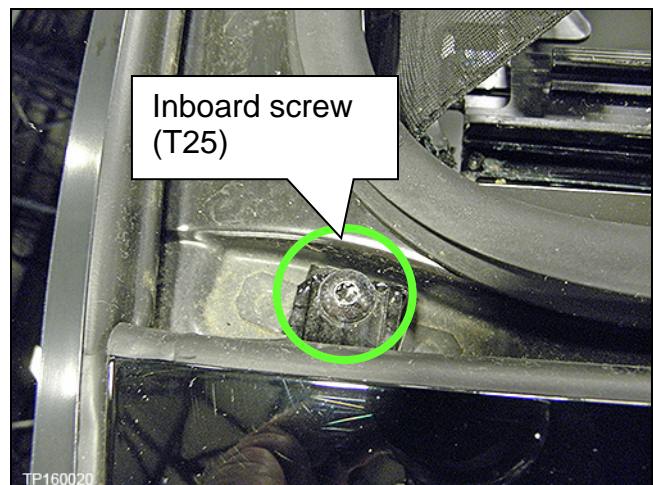

Figure 27
4. Remove inboard screw (single use T25, Figure 27) securing the front of the affected trim panel.
13. Install the new T25 inboard screw (Shown in Figure 27 on page 12) into the front of the trim panel.